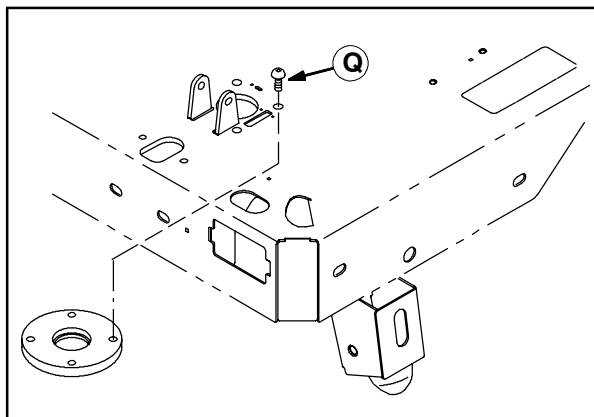

FIG. 13
22. Use the button screws (Q) to reinstall the front drive assembly onto the machine. Refer to Fig. 13.